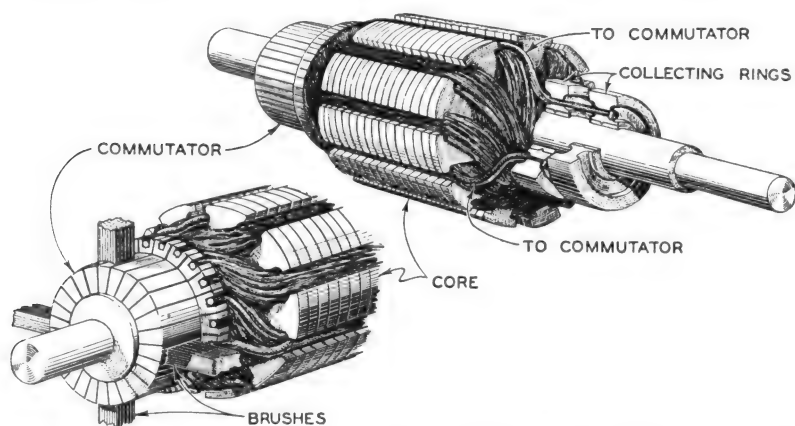

Fig. 1. Converter Armature Showing Method of Connecting Collector Rings to Commutator
**Inverted Converters.** The inverted converter is perhaps the most simple of construction, for it does not need to be as complicated in design as some of the other forms of this machine. This is true because it is operated as a *direct-current motor* and the *direct-current armature* with which it is equipped lends itself readily to the addition of collecting rings for taking off the alternating current. This armature is shown in the sketch of Fig. 1. The armature bears the usual windings placed in slots in the *core*. There are wires connecting each of the collecting rings to the commutator at